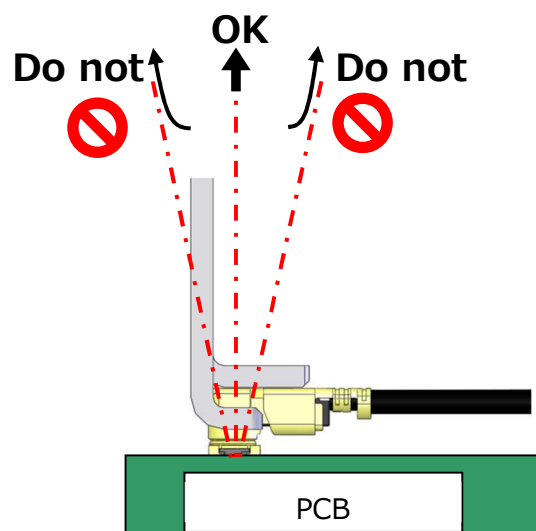

Fig. 13 Pulling direction
- Mating and unmating JIG must be pulled up vertically from the PCB surface. (Fig. 13)